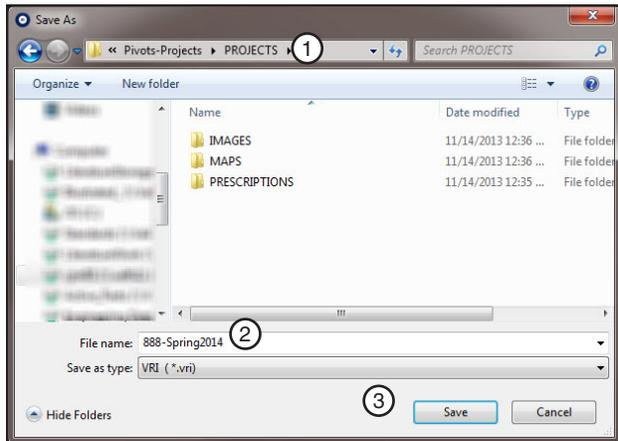

Figure 36-1 1. Folder Name
4. Locate the folder in which you want to save the project, give the file a name, and click **Save**. (Refer to Figure 36-1.)